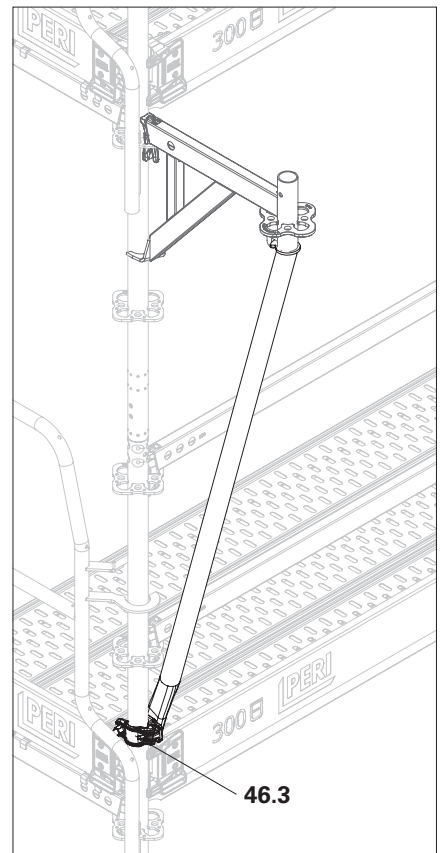

Fig. A6.12d
- Console bracket brace is installed. (Fig. A6.12d)